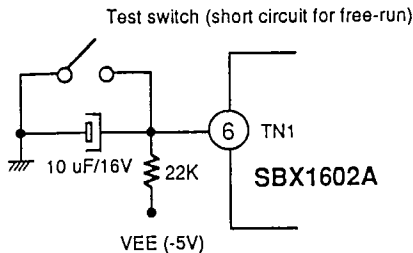
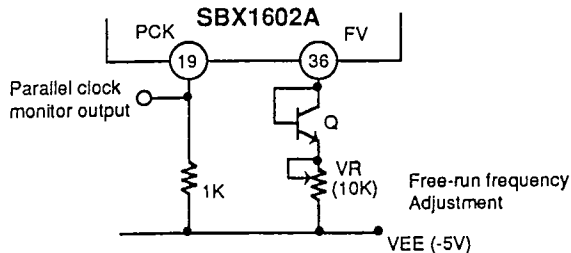

Fig. 9-6. Transient absorber time-constant
Fig. 9-7. Compensation on VCO temperature characteristics
TN1 (pin 6) is provided to switch the PLL circuit into a test mode where the VCO frequency can be freely varied in terms of a control voltage given between FV and V_{EE} (-5V power supply). In practice, TN1 is also used to avoid a PLL mislock the transitional period when power is supplied. Fig. 9-6. shows such an arrangement.
Although the VCO temperature characteristics are optimized for around 270MHz, a compensation in terms of an external diode as shown in Fig. 9-7. is recommended, particularly if the chip is used for the D2 PAL bit rate.
- (1) Keep the receiver, including the SBX1602A and associated circuits, switched on for at least 5 to 10 minutes in order to stabilize the thermal situation.
- (2) Close the switch connected to TN1 in Fig. 9-6. to maintain TN1 at ground potential and confirm that the PLL of the chip is set for free-run by changing the value of VR in Fig. 9-7.
- (3) Referring to Fig. 9-7, adjust the VR so that a frequency counter connected PCK can indicate,